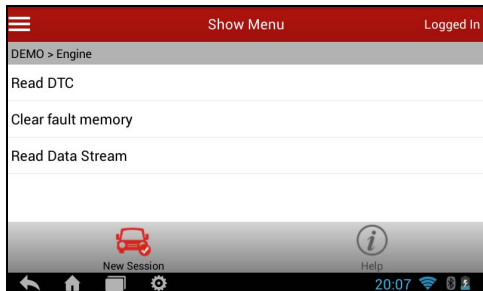

Fig. 5-12
5. Tap "Engine", the system will jump to the function menu. See Fig. 5-12.